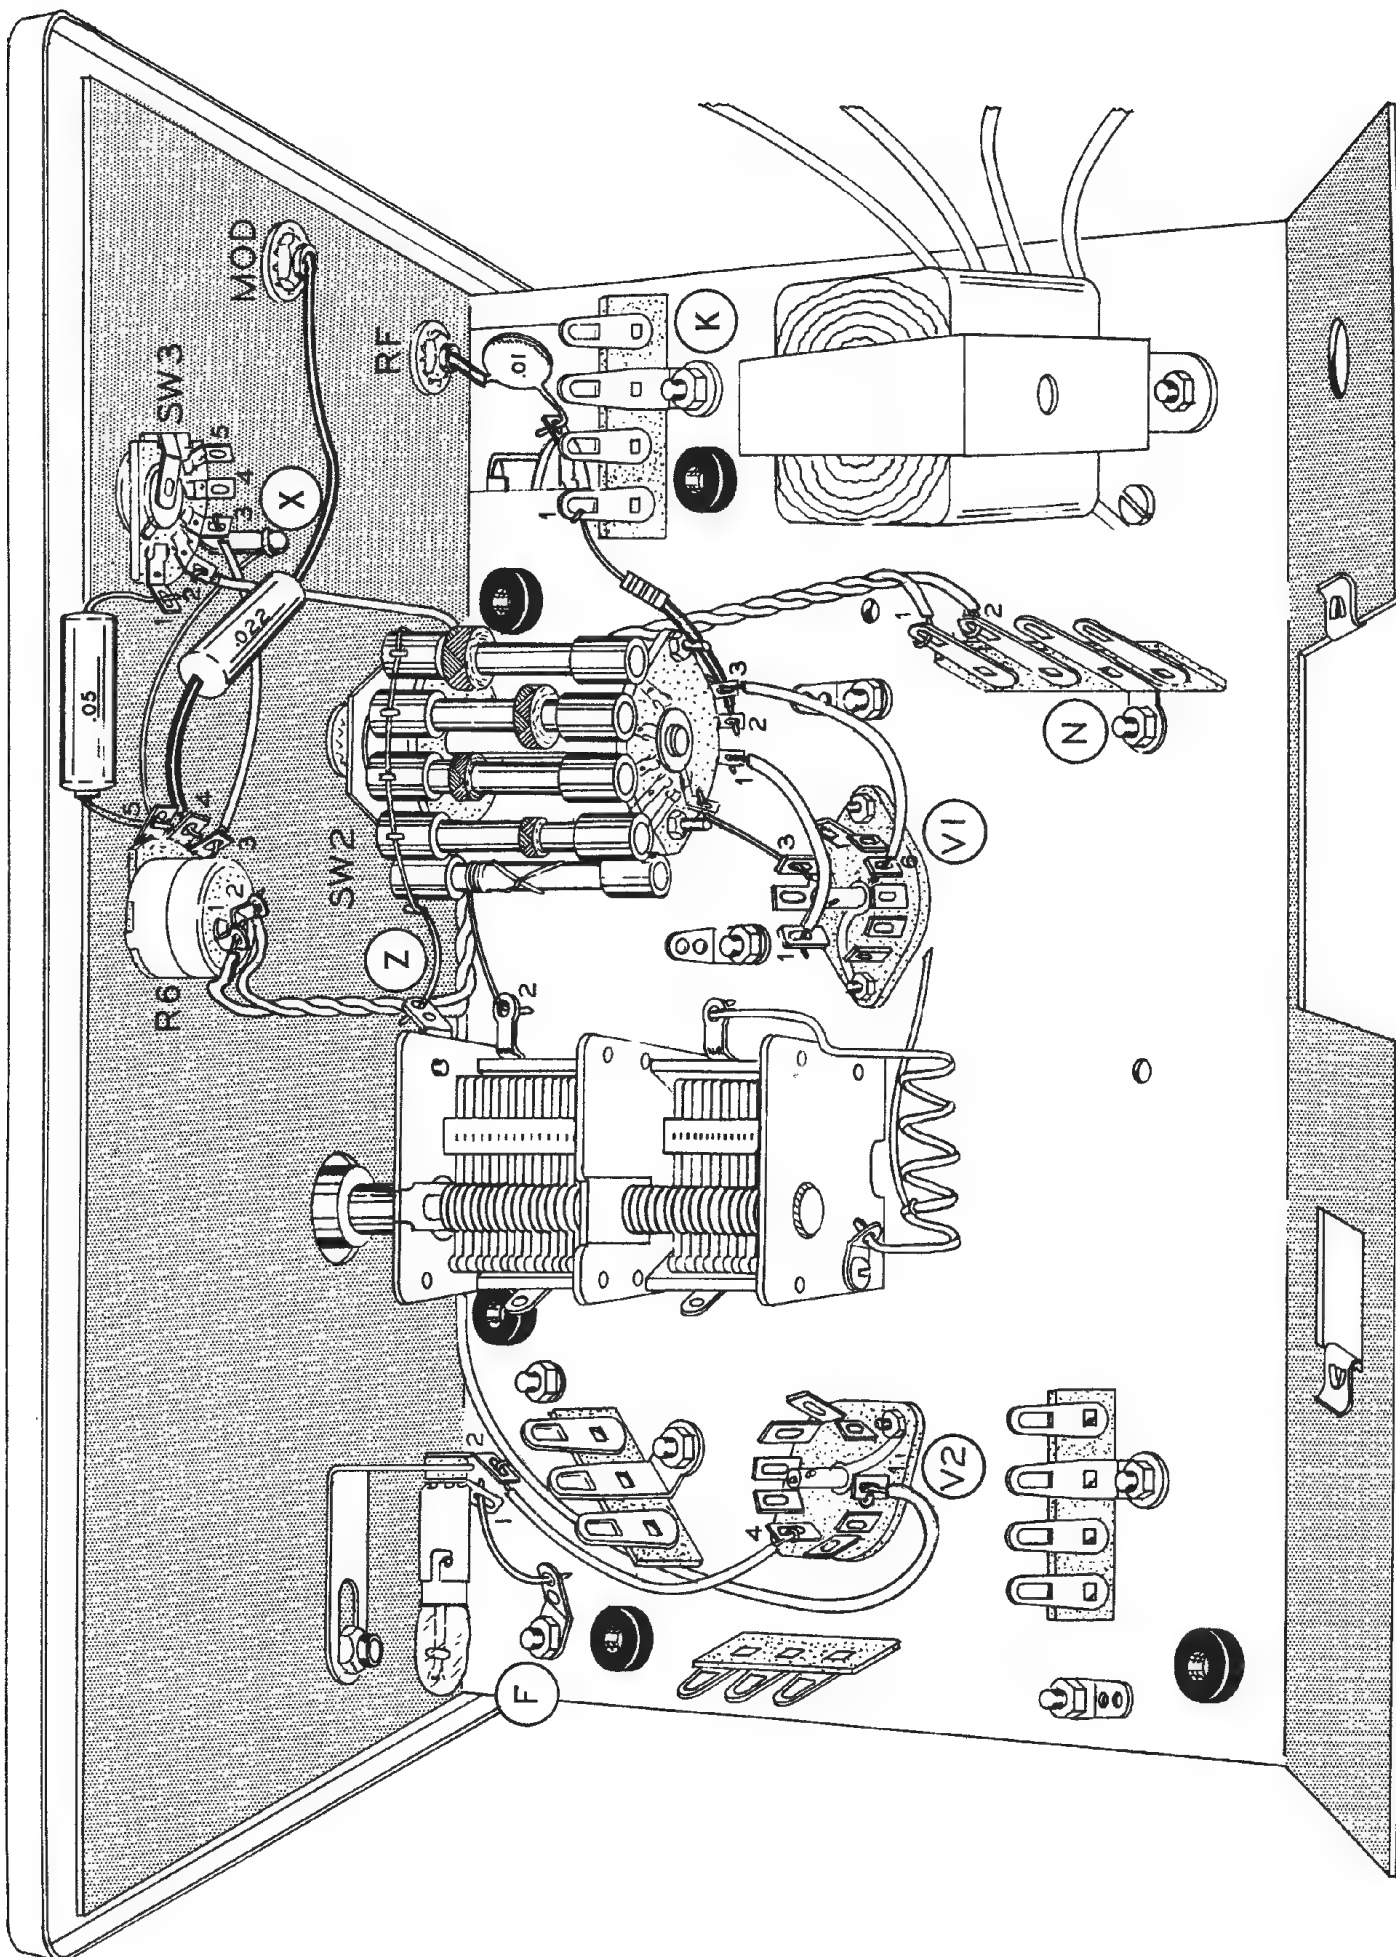

Figure 5
- () Refer to Figure 5 and mount the front panel to the chassis with the modulation control R6 (#19-11). Use a control lockwasher between the control and the chassis. Use a flat control washer under the nut.
- () Connect a 3" length of bare wire between lug 5 (NS) of control R6 and solder lug X (NS).